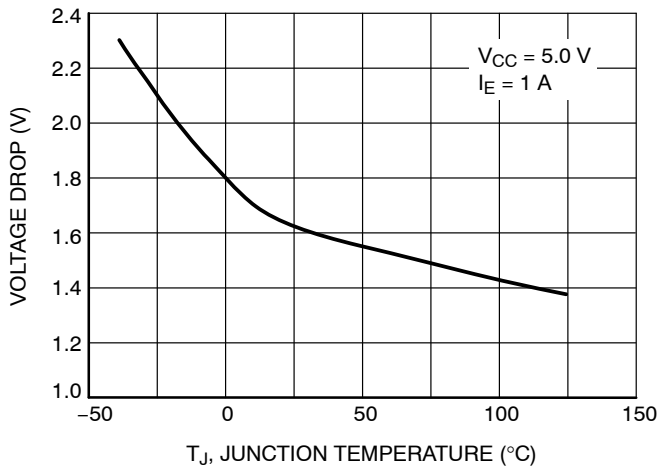

Figure 7. Emitter Follower Configuration Output Darlington Switch Voltage Drop vs. Temperature
- 8. V_{SWCE} – Darlington Switch Collector to Emitter Voltage Drop, refer to Figures 7, 8, 9 and 10.